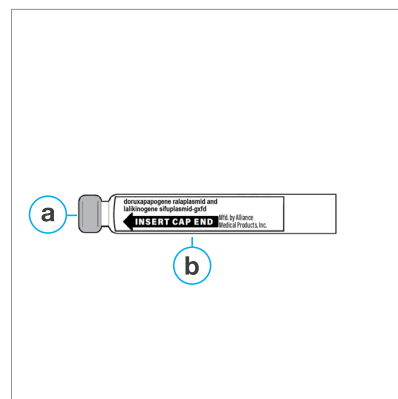

Figure 5 The VOCERYQ Cartridge supplied in Carton
6. **VOCERYQ single-use cartridge:** Contains the immunotherapy to be inserted into the Array for administration (**see Figures 5 and 6**).